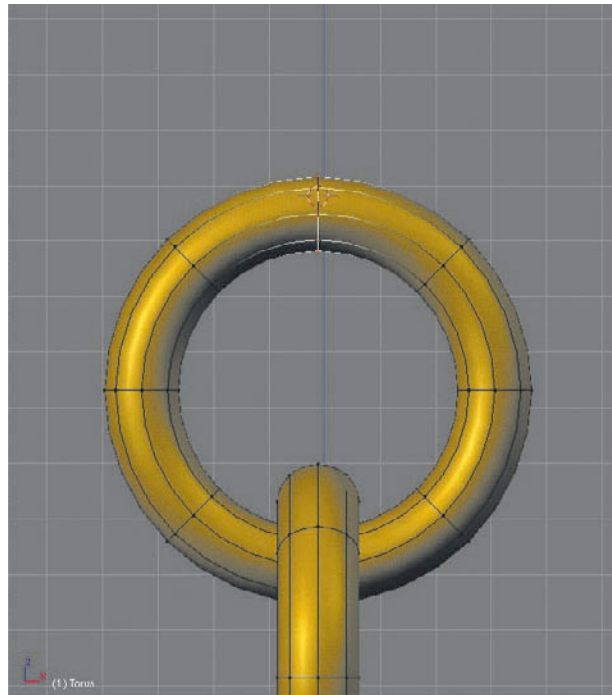
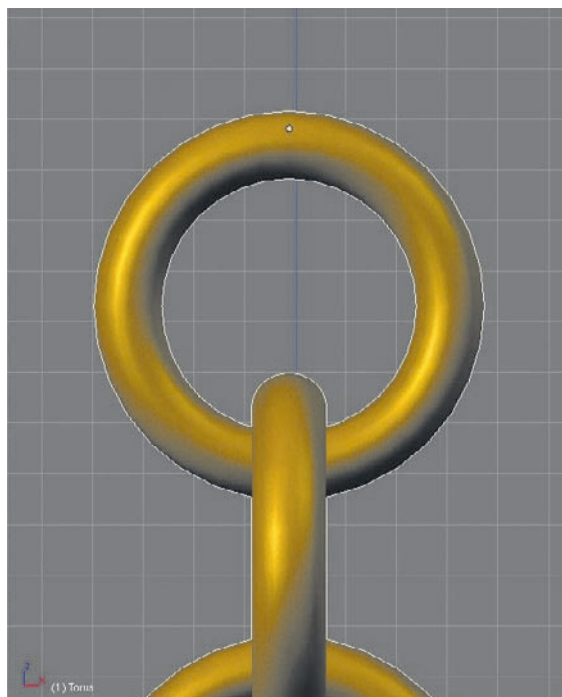

Figure 3.30 Positioning the cursor
Figure 3.31 Repositioning the object center
3. For the purposes of this tutorial, it is better to have the Chain object's center nearer the top of the chain. To do this, select the loop around the topmost cross-section of the topmost link, by pressing Alt+Right Mouse Button (RMB), and snap the cursor to selection by pressing Shift+S, so that the cursor is positioned as shown in Figure 3.30. Tab into Object mode and click Center Cursor on the Mesh tab of the Edit Buttons area to place the cursor as shown in Figure 3.31. Next, apply scale and rotation to the object by pressing Ctrl+A.